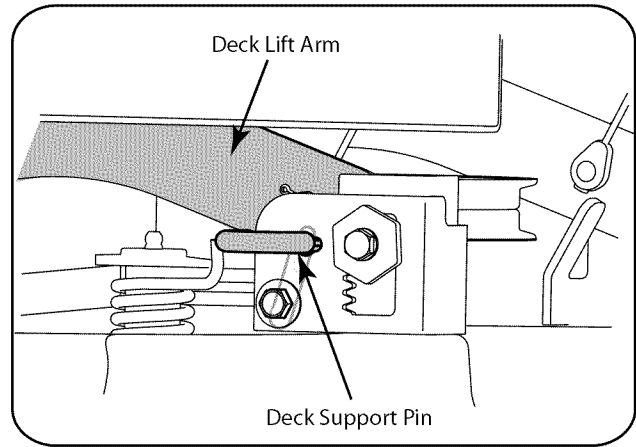

Figure 7-1
4. Looking at the cutting deck from the left side of the tractor, locate the deck support pin on the rear left side of the deck. Refer to Figure 7-1.
5. Pull the deck support pin outward to release the deck from the deck lift arm. Pivot the support pin handle downward to lock the pin in the disengaged position. Refer to Figure 7-1.